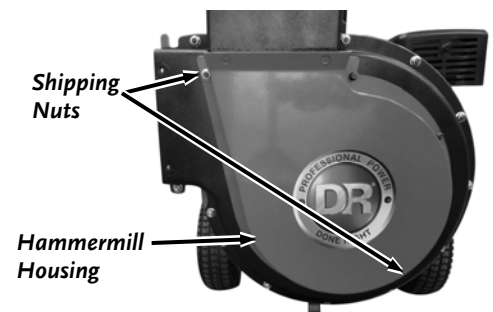

Figure 6
1. Remove the two shipping nuts that are temporarily securing the Hammermill Housing to the Power Unit using a 1/2" Wrench (**Figure 6**). Discard the nuts.